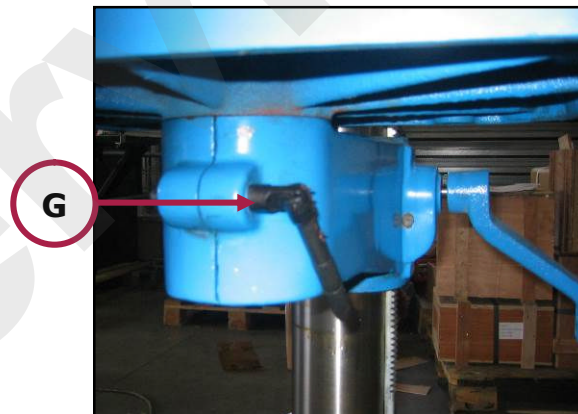

Figure 17 - Rotating the table.
1. Unlock the locking handle (G) located under the table (figure 17).
3. Tighten the locking handle (G).